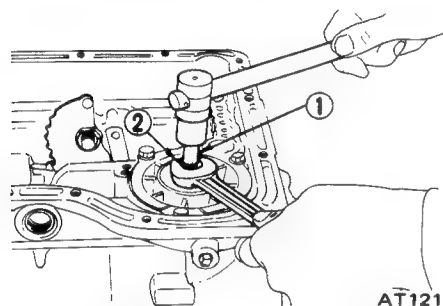

Fig. AT-55 Loosening band servo
6. Loosen lock nut ② on piston stem ① as shown in Figure AT-55. Then tighten piston stem in order to prevent front clutch drum from falling down when oil pump is withdrawn.